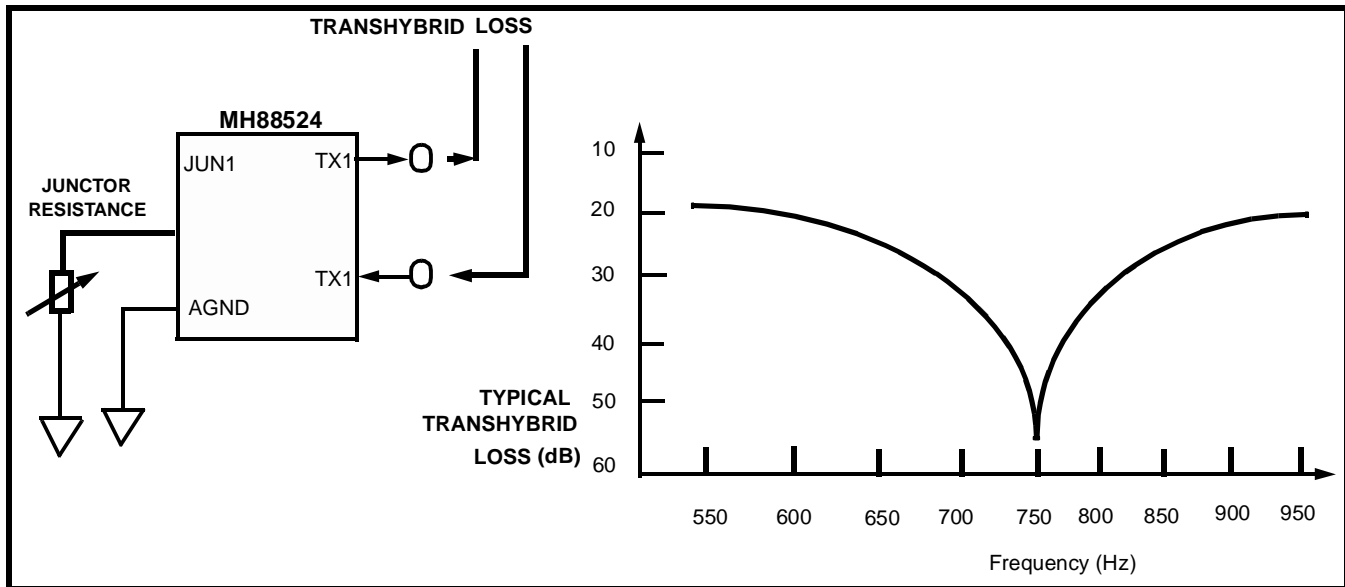

Figure 4 - Transhybrid Loss vs Junctor Resistance with MH88524
③ See Figure 4.
Transhybrid loss is maximised when the JUNi termination impedance is  $754W$ . In addition, good transhybrid loss is indicated in Figure 4 and AC Electrical Characteristics.